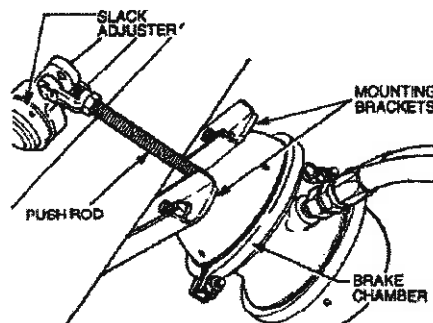

Figure 28 Slack Adjuster and Pushrod
- e. Remove the split pin and the clevis pin from the push rod clevis and the slack adjuster (Figure 28).
- j. Remove the two nuts and washers retaining the brake chamber to the axle mounting bracket (Figure 28).